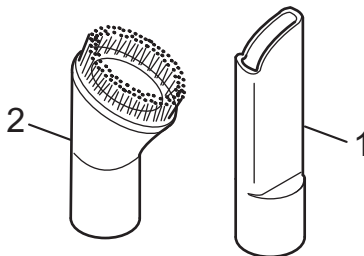

Fig.6
- **Crevice nozzle (Fig. 6/1)**
- **Furniture brush (Fig. 6/2)**